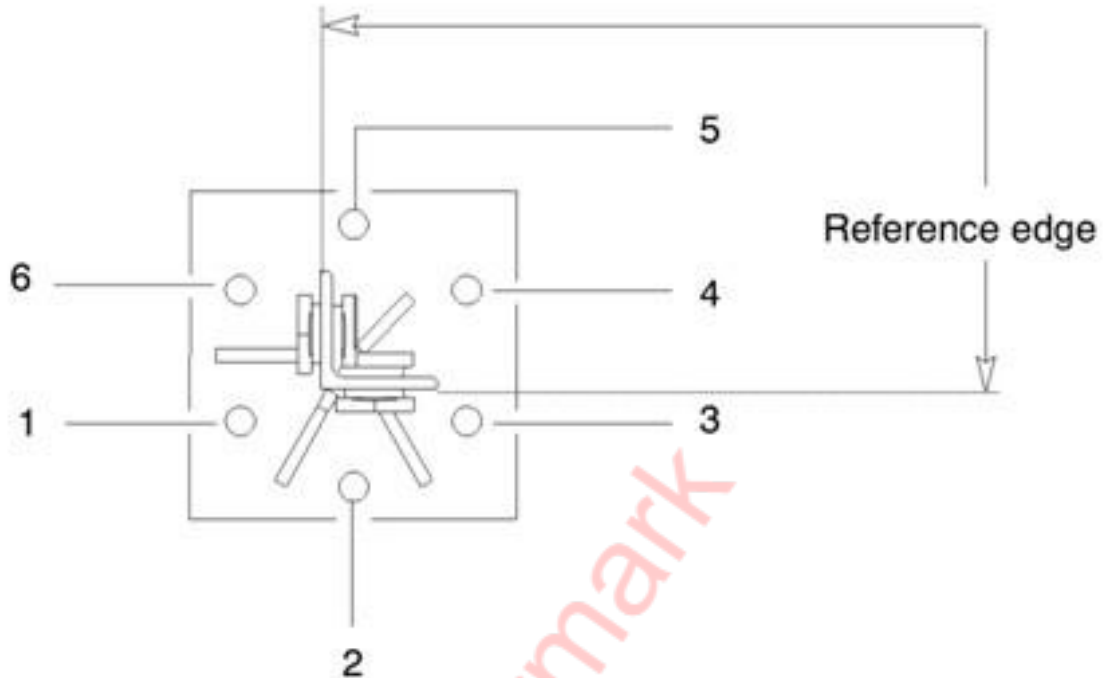

Figure 1
- 6 rods - use the holes 1,2,3,4,5,6 (Figure 1)